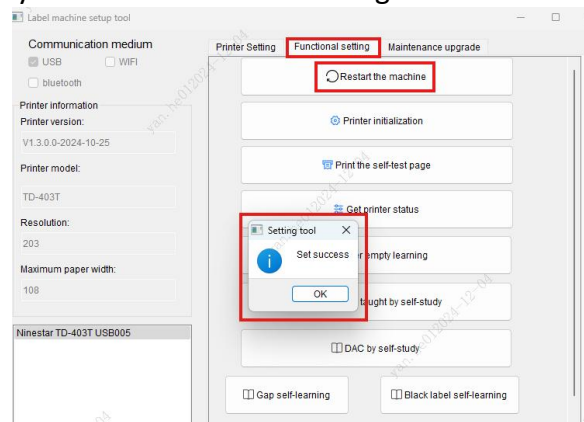

Fig.49
(1)Restart the machine: Select the "Functional setting" section and click,a "Set success" prompt box will appear (shown in Fig.49), indicating that the printer has restarted successfully. You can observe the changes in the machine's indicator lights.